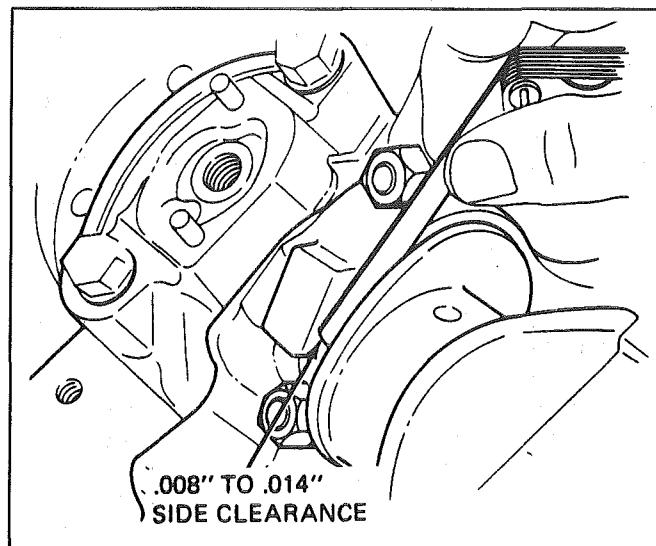

Fig. 6A3-37 Measuring Connecting Rod Side Clearance-Typical
9. Measure all connecting rod side clearances (see specifications) between connecting rod caps (fig. 6A3-37).
MAIN BEARINGS (FIG. 6A3-38)